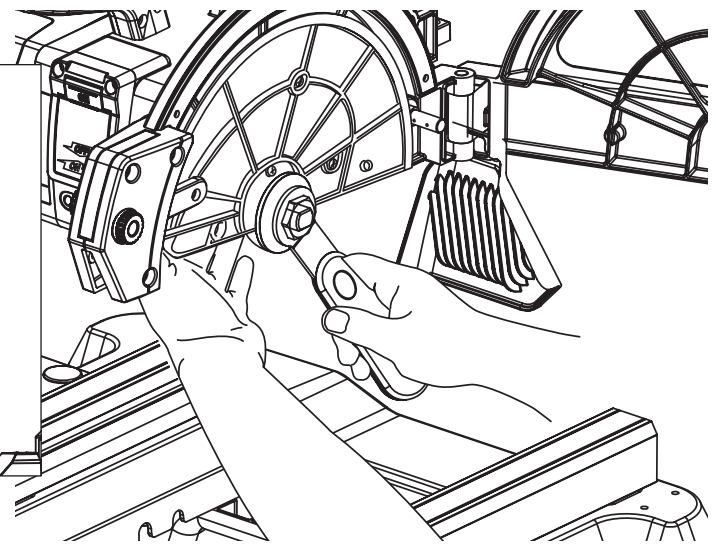

Fig. 22
2. To open the blade guard, press the spindle lock with one hand, and, with the other hand, use the nut wrench (supplied) to turn the shaft nut counterclockwise (Fig. 22).